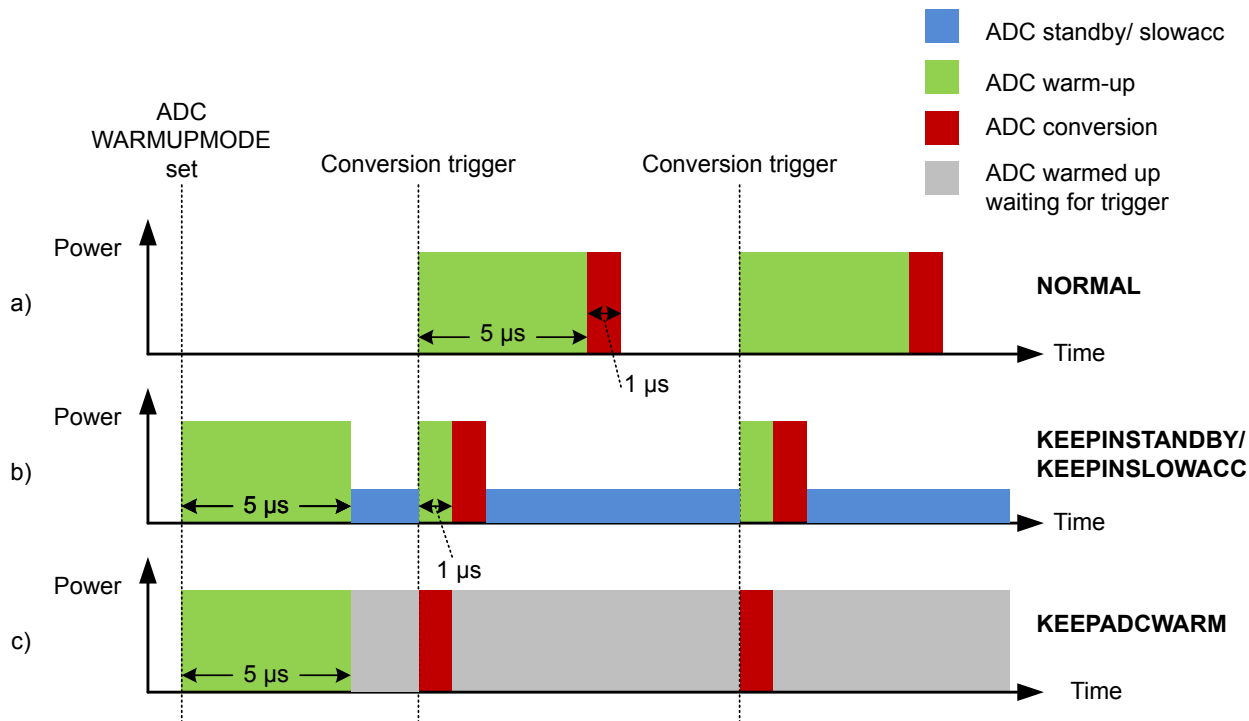

Figure 27.4. ADC Analog Power Consumption With Different WARMUPMODE Settings
Normally, the ADC will be warmed up only when samples are requested and is shut off when there are no more samples waiting. However, if lower latency is needed, configuring the WARMUPMODE field in ADCn_CTRL allows the ADC and/or reference to stay warm between samples, reducing the warm-up time or eliminating it altogether. Figure 27.4 ADC Analog Power Consumption With Different WARMUPMODE Settings on page 916 shows the effects on analog power consumption in scenarios using different WARMUPMODE settings.
- **NORMAL:** This is the lowest power option for general-purpose use and low sampling rates (below 35 ksps). The ADC and references are shut off when there are no samples waiting. The ADC does not consume any power when it is shut down. A 5 μ s warmup time will be initiated prior to every conversion. Figure a in Figure 27.4 ADC Analog Power Consumption With Different WARMUPMODE Settings on page 916 shows this mode.
- **KEEPINSTANDBY:** This mode is suitable for infrequent sampling of lower impedance inputs, and is the lowest power option for sampling rates between about 35 and 125 ksps. It may also be useful for lower sampling rates where latency is important. The reference selected for scan mode is kept warm, but the ADC is powered down. The ADC will initiate a 1 μ s warmup period before a conversion begins. Because the reference is kept warm, the ADC will consume a small amount of standby current when it is not converting. Figure b in Figure 27.4 ADC Analog Power Consumption With Different WARMUPMODE Settings on page 916 shows this mode.
- **KEEPADCWARM:** This mode provides the lowest latency and allows for maximum sampling rates. The ADC and reference circuitry remain powered on even when conversions are not in progress. Figure c in Figure 27.4 ADC Analog Power Consumption With Different WARMUPMODE Settings on page 916 shows this mode. This mode consumes the most power, but as soon as a trigger event occurs, the acquisition and conversion begin with no warm-up time. Note that if KEEPADCWARM mode is set and HFXO is selected as the ADC clock source, the HFXO will remain on in EM2.